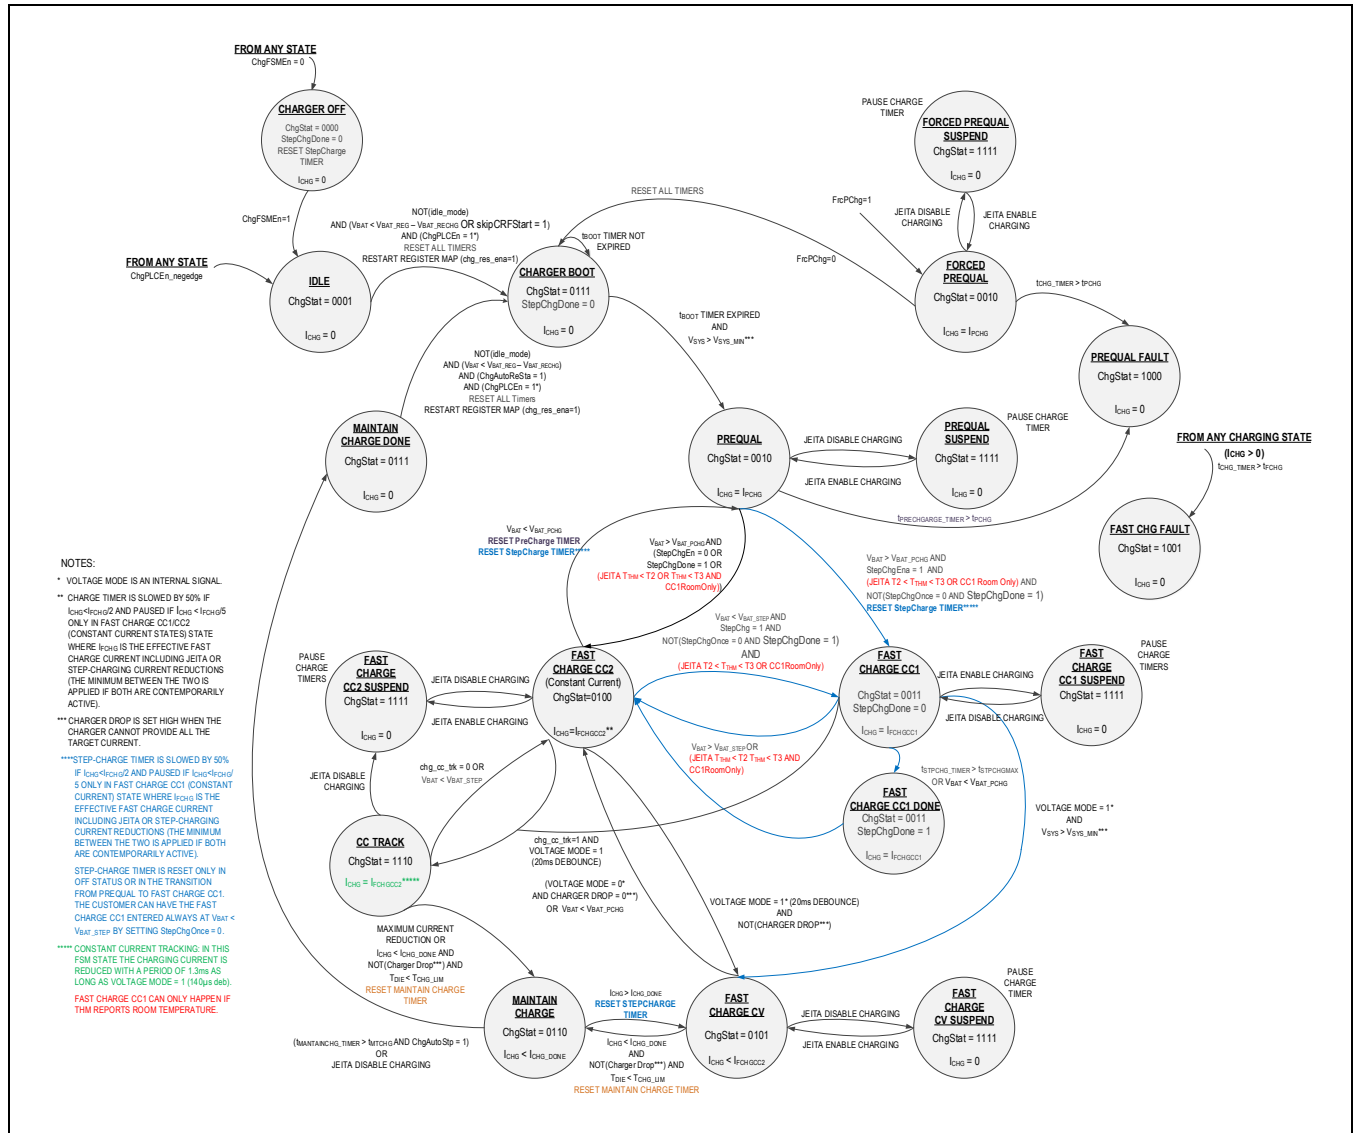

Figure 16. Battery Charger FSM Diagram
There are also independently programmable temperature thresholds, which allow the user to select in which temperature ranges precharge, CC1, CC2, and battery regulation voltage may operate. A different JEITA-compliant temperature operation strategy is I²C programmable. The timeout function for precharge, CC1, and full charge cycle is also designed to prevent overcharge of the battery. Detailed charger operation is shown in Figure 16.
As shown in Figure 16, when a PLC connection is not established, power is not applied from the MAX20355A. The MAX20357A charger is in the **Charger Off** state (ChgStat = 0b0000). After MAX20357A detects the PLC connection, buck-boost voltage is applied to the PLC pin, chn_con_sts status is set to 1 and chn_con_int interrupt is asserted at the first telemetry PING, signaling PLC connection is established. The charger transitions from the **Charger Off** state to the **Charger IDLE** state (ChgStat = 0b0001).
As shown in Figure 16, the following events cause the charger to enter the **Charger IDLE** state.
As shown in Figure 16, the charger enters the precharge state (ChgStat = 0b0010) after the charger boot sequence is completed and the SYS pin voltage is regulated higher than or equal to the minimum system voltage SysMin. If the battery voltage is lower than VPChg or FrcPChg = 1, the charger remains in a precharge state. In the precharge state, the battery charging current is IPChg.
As shown in Figure 16, if the CC track is disabled, the charger enters the **Fast-Charge Constant Voltage (CV)** state when the battery voltage is close to the top-off voltage BatReg. In the **CV** state, the charger regulates the battery voltage at BatReg and the charge current decreases from CC2IFChg as the battery voltage increases. Battery regulation voltage can be less than BatReg due to temperature. See the JEITA Compliance section for JEITA reduction of battery regulation voltage.
If the charger drop-out voltage drops down to the programmable threshold PLC_DROP, the charger current is actively reduced to maintain the charger input and output voltage difference $V_{\text{PLC}} - V_{\text{BAT}}$ at PLC_DROP. As shown in Figure 16, when the charger current is being actively reduced, some charger state transitions are unavailable.